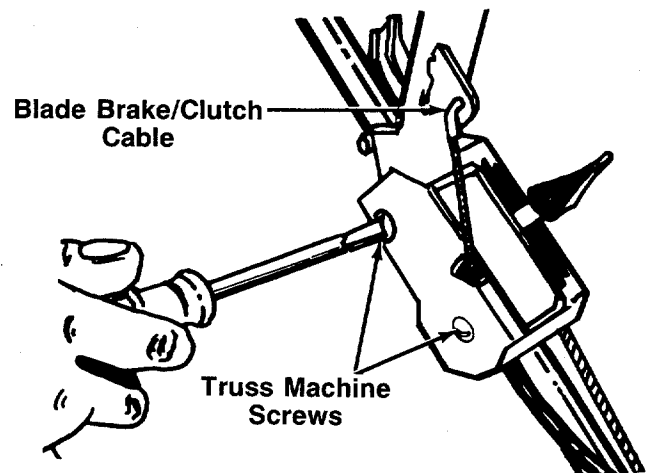

FIGURE 29.
5. Remove two truss machine screws on the inside of the control housing as shown in figure 29.